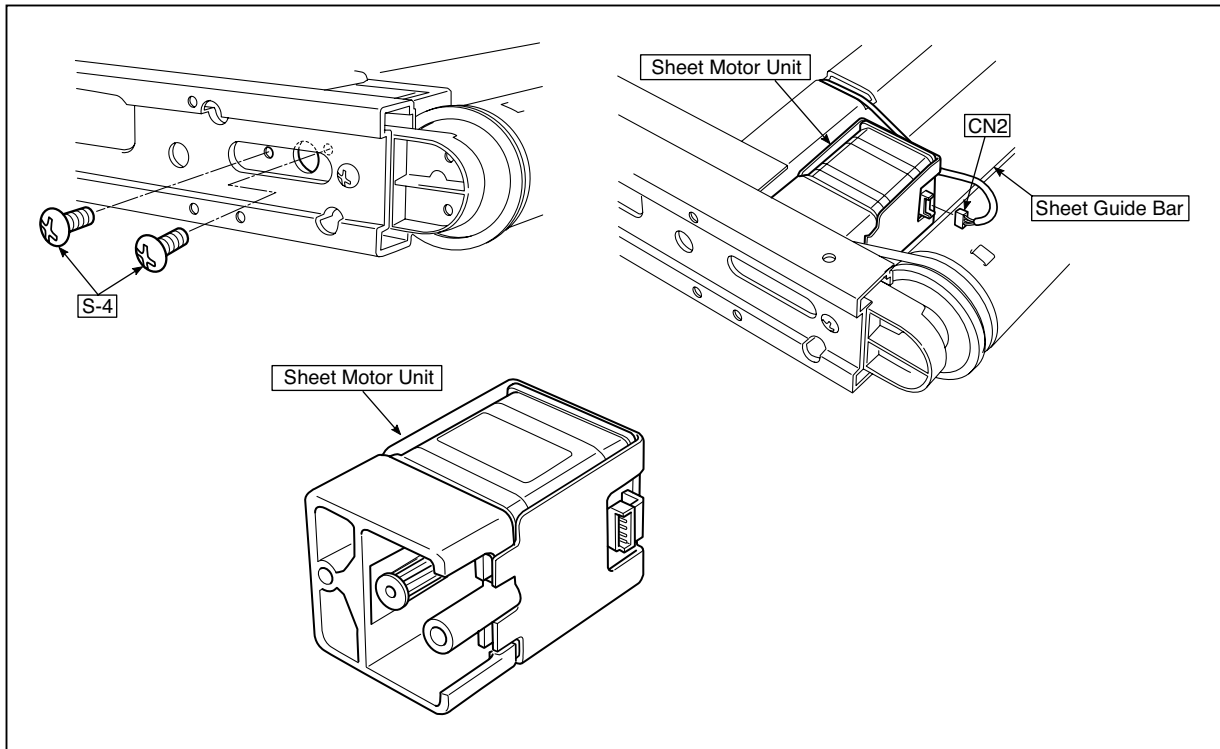

Fig.31
**13) Replace the Sheet Motor Unit. (See Fig. 31)**
1. Remove the "S-4" screws shown in the figure 31.